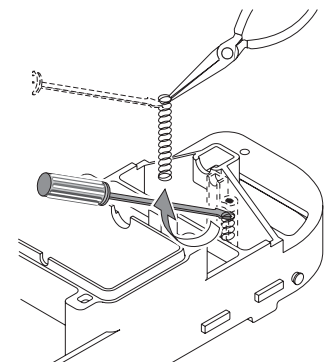

Figure 25
7. With a small screwdriver (such as a jeweler's screwdriver), a pencil, or a pen point, depress and remove the coil spring from the lift brush mounting post (Figure 25). Replace the brush and the spring if necessary.